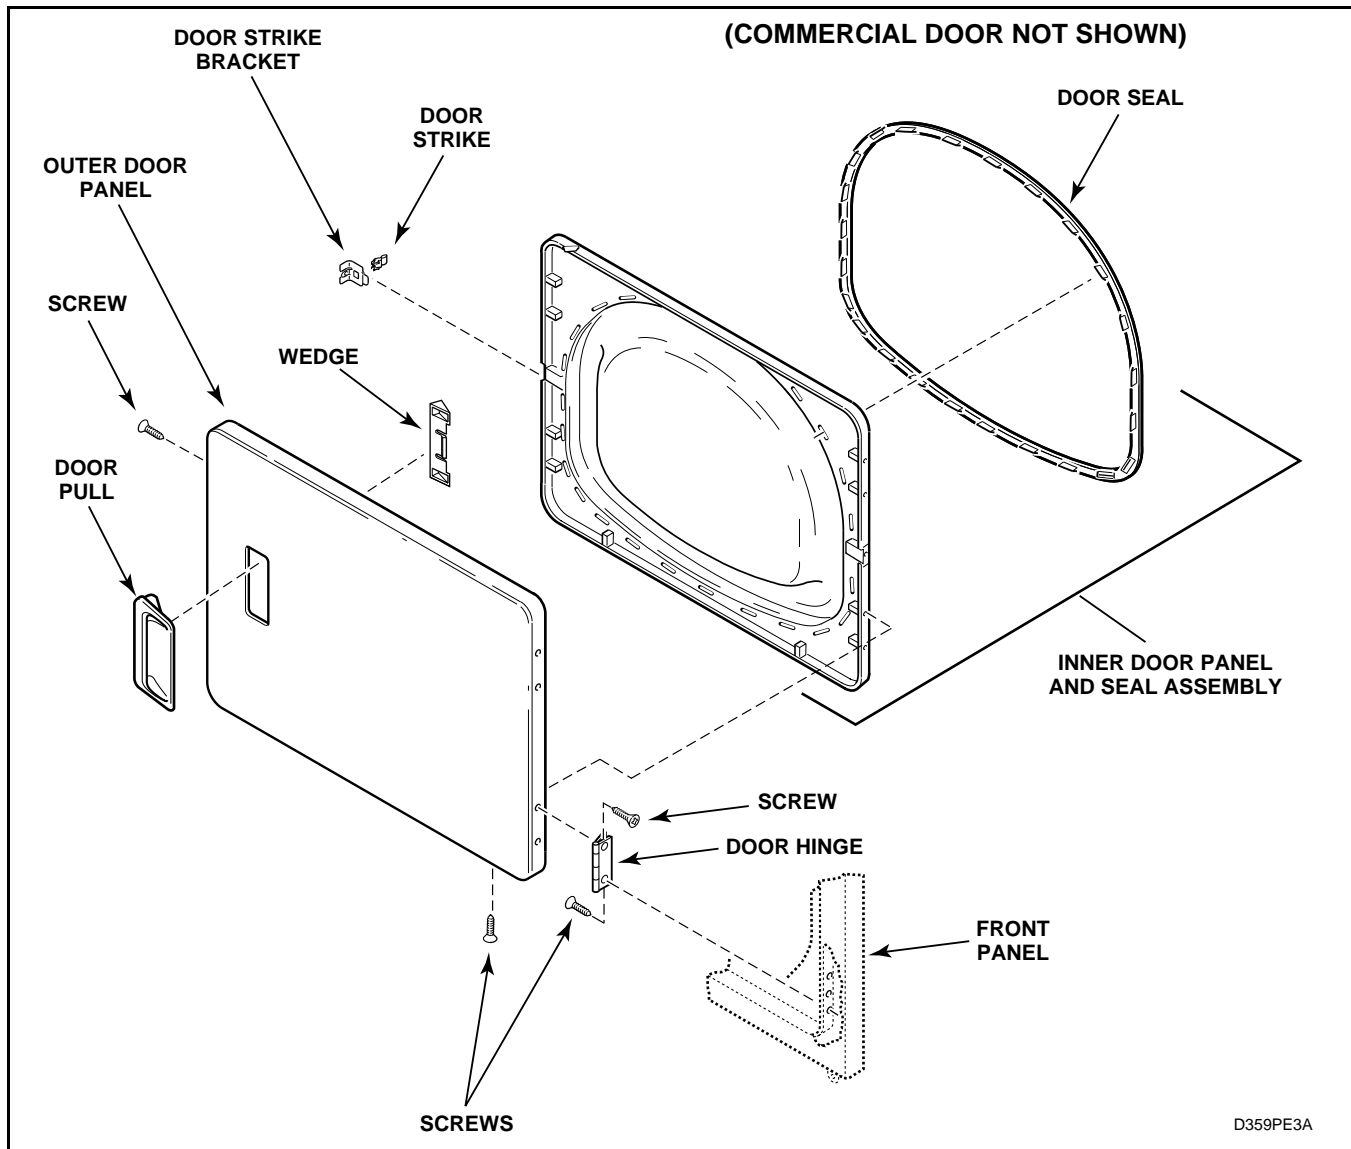

Figure 9
c. Remove wedge (located behind door pull) by carefully prying up on center of wedge. See Figure 9.
d. Remove door pull. See Figure 9.